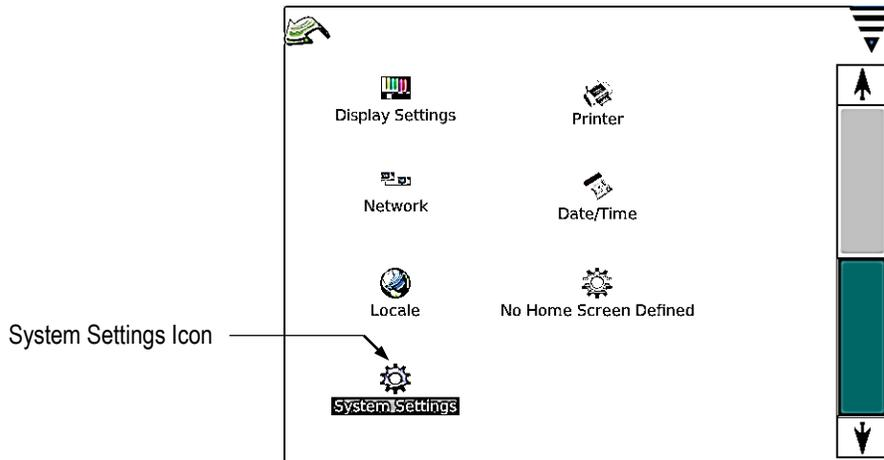

Figure 6
b. Scroll down and touch the System Settings icon. Refer to Figure 6.